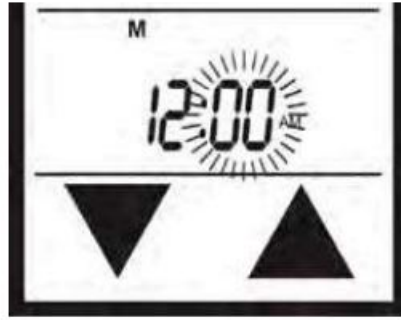

Figure 5A - Setting the Clock
3. The minutes will be flashing. Use the UP and DOWN touch buttons to select the minute, then press SET. (Fig. 5A, page 3).